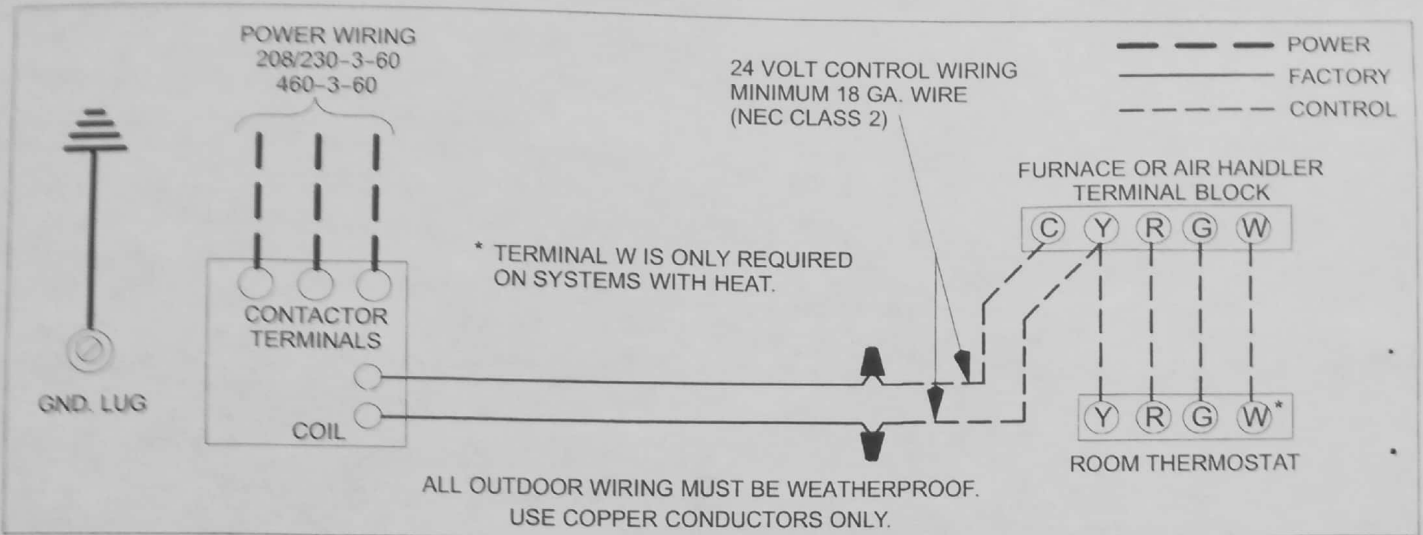

FIGURE 5 - TYPICAL FIELD WIRING FOR 036 - 060 MODELS
2. Using wire nuts, connect the low voltage wiring as shown in Figure 5, 6 & 7.